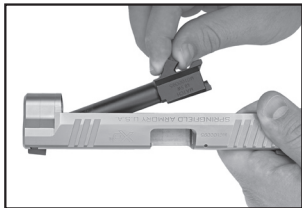
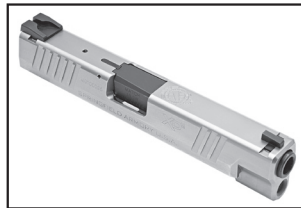

Figure 26-1
Figure 26-2
1. Install barrel into slide (See Figure 26-1) insuring that the top of the chamber of the barrel is flush with the top of the slide (See Figure 26-2.)